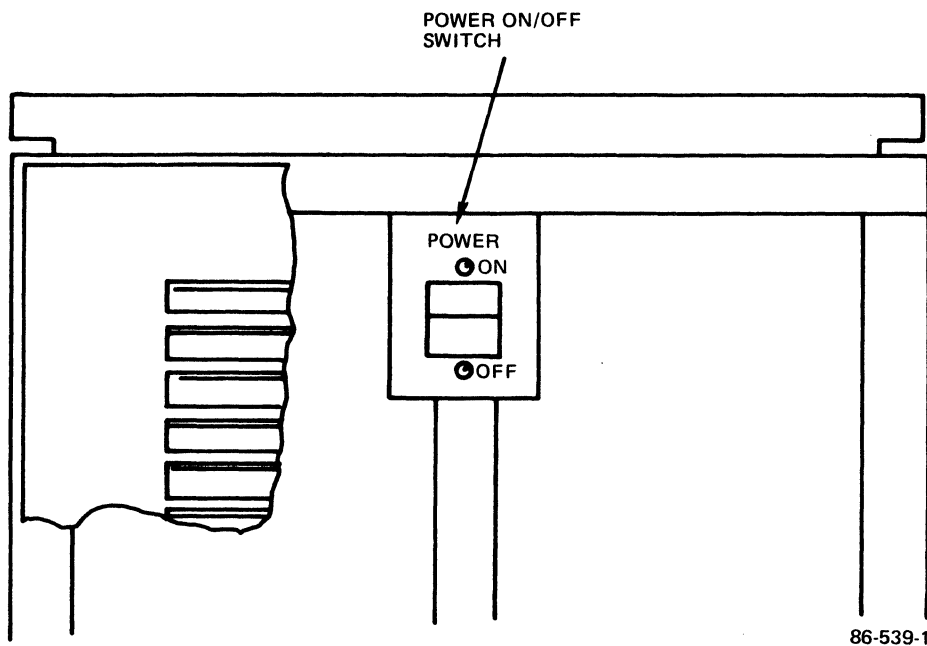

Figure 2-5. Subsystem Power Switch
1. Verify that the subsystem POWER ON/OFF switch located on the front of the cabinet, as shown in Figure 2-5 on the adjacent page, is in the OFF position.